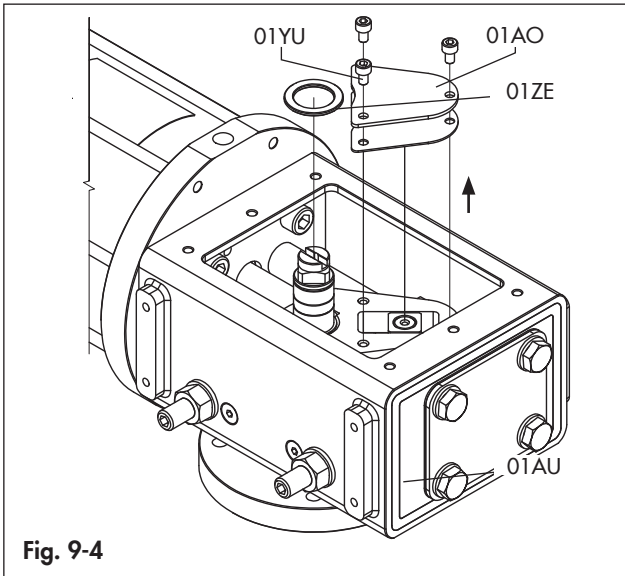

Fig. 9-4
- Unscrew the screws (01YU) from the yoke cover (01AO). (Fig. 9-4)
- Remove the yoke cover (01AO), the gasket (01AU) and upper thrust bearing (01ZE) (Fig. 9-4).